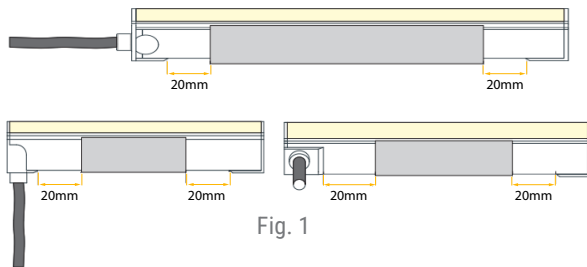

Fig. 1
- The molded endcaps on each end of the neon should rest outside the channel (see Fig. 1). Please leave a .79\"/>